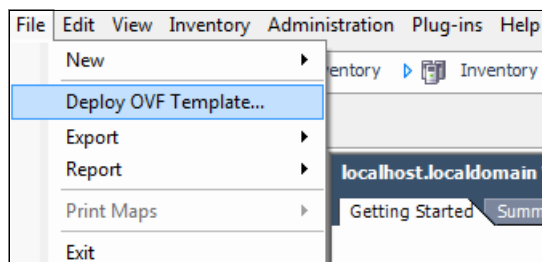

Figure 3-32 Deploy OVF template
2. From the vSphere client user interface, deploy an Open Virtualization Format (OVF) template, as shown in Figure 3-32.